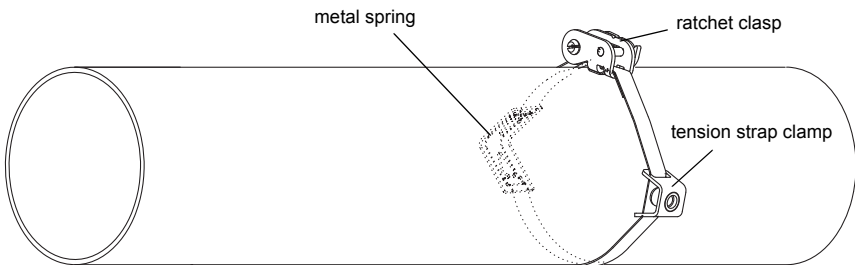

Fig. 7.30: Tension strap with the metal spring, the ratchet clasp and the tension strap clamp on the pipe
- Place the tension strap around the pipe (see Fig. 7.30).